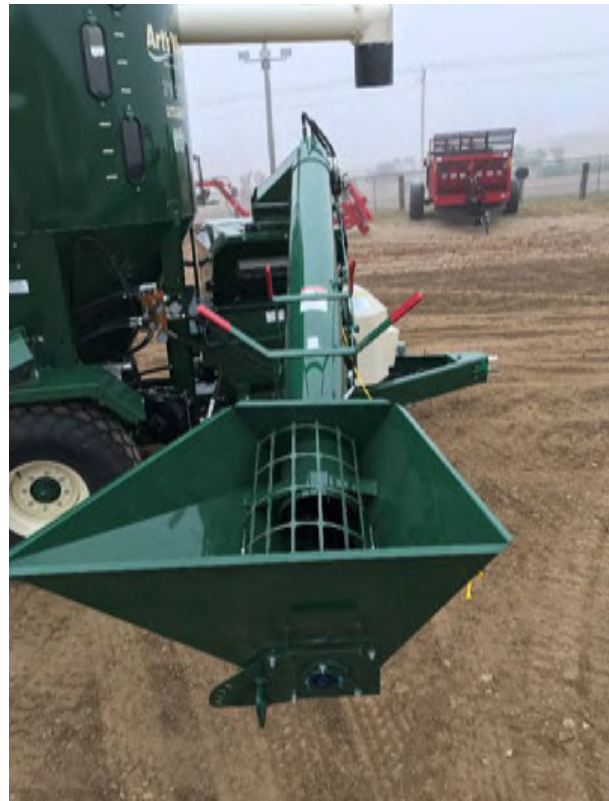

Figure 8 - Model 7165 Cattlemaxx with Self-Contained Hydraulics, Auger Feeder.
1. Auger feeder (hydraulic). (See Figure 8.)